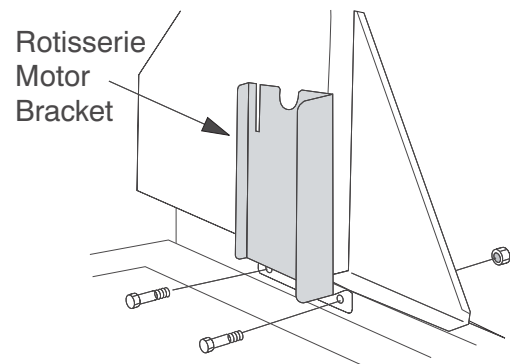

Fig. 1
1. Attach the Rotisserie Motor Bracket to the left side of the base by aligning the holes and securing the pieces together using the two bolts and two lock nuts provided. The mounting flange extends through the center slot of the side shelf. (see Fig.1)